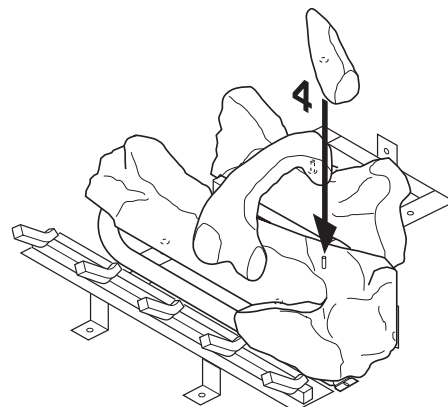

Figure 47 - Installing Log No. 4
4. Place log #4 (right log) on the pin on the right side of front log as shown in Figure 47.